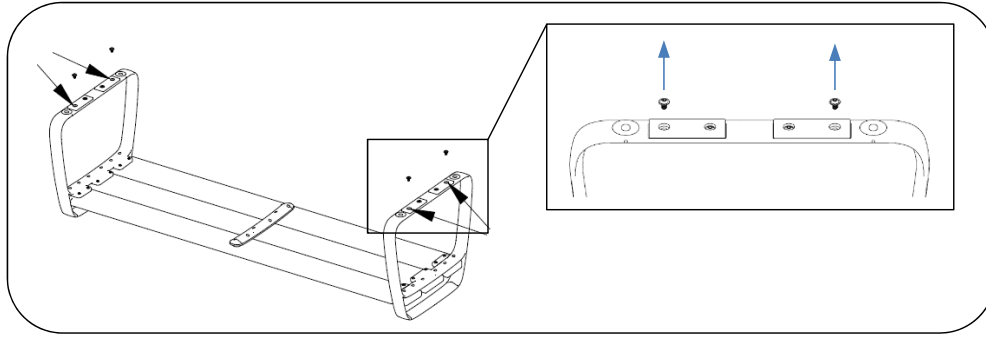

Fig. 1 – Remove screws for threaded rod install
2. Remove four outer screws from glides as shown in Fig. 1. Leave glides installed.